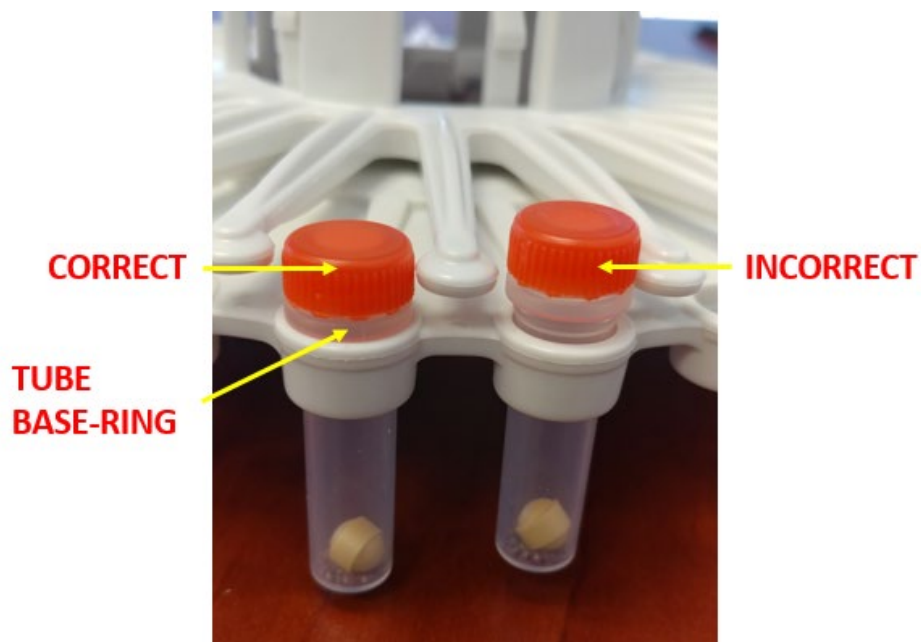

Figure IV-3.1: Tube Loading
- Load the sample tubes into the holes of the 'Tube Deck', and press so that they seat snugly and the 'Tube Base-Ring' contacts the 'Tube Deck' surface (Figure IV-3.1). For less than full loads, tubes must be balanced symmetrically.